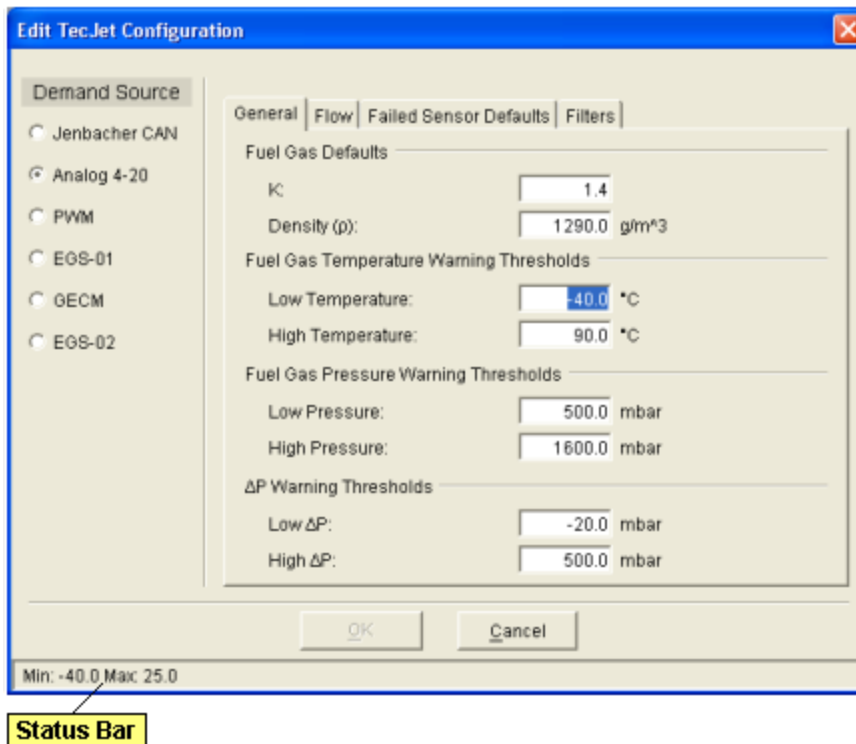

Figure 5-9. Edit TecJet Configuration, General
- Edit TecJet Configuration, General (Figure 5-9)